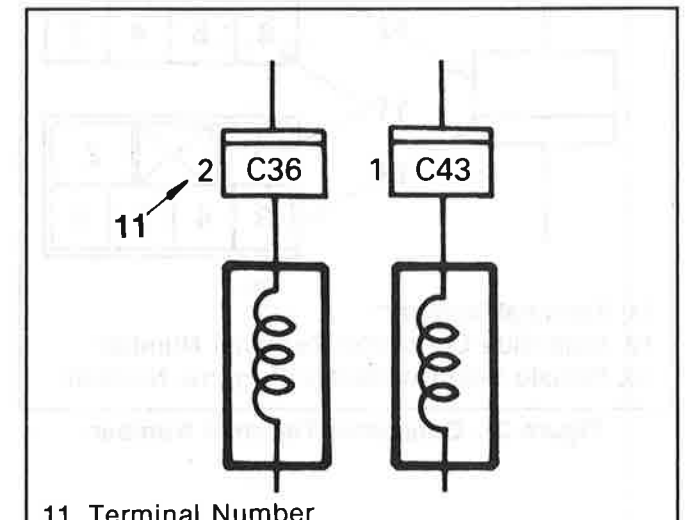

Figure 30. Applicable Terminal Number
The applicable terminal number (11) is shown for each connector (figure 30).